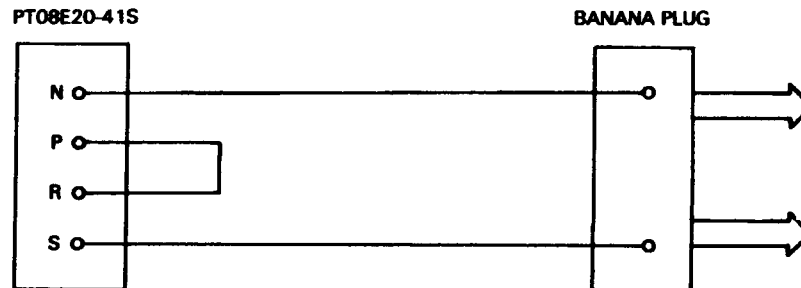

Figure 1
- (1) Connect 620-ohm resistor across distortion analyzer input.
- (2) Connect test cable (connector PT08E20-41S to dual banana) between J22 on rear of transceiver and distortion analyzer input jacks (refer to figure 1).